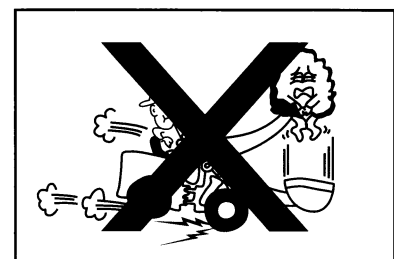

Figure1-51
- It is dangerous to operate the working equipment impetuously. Impetuous action of working apparatus can throw out the load or overturn the loader. (Figure 1-51)